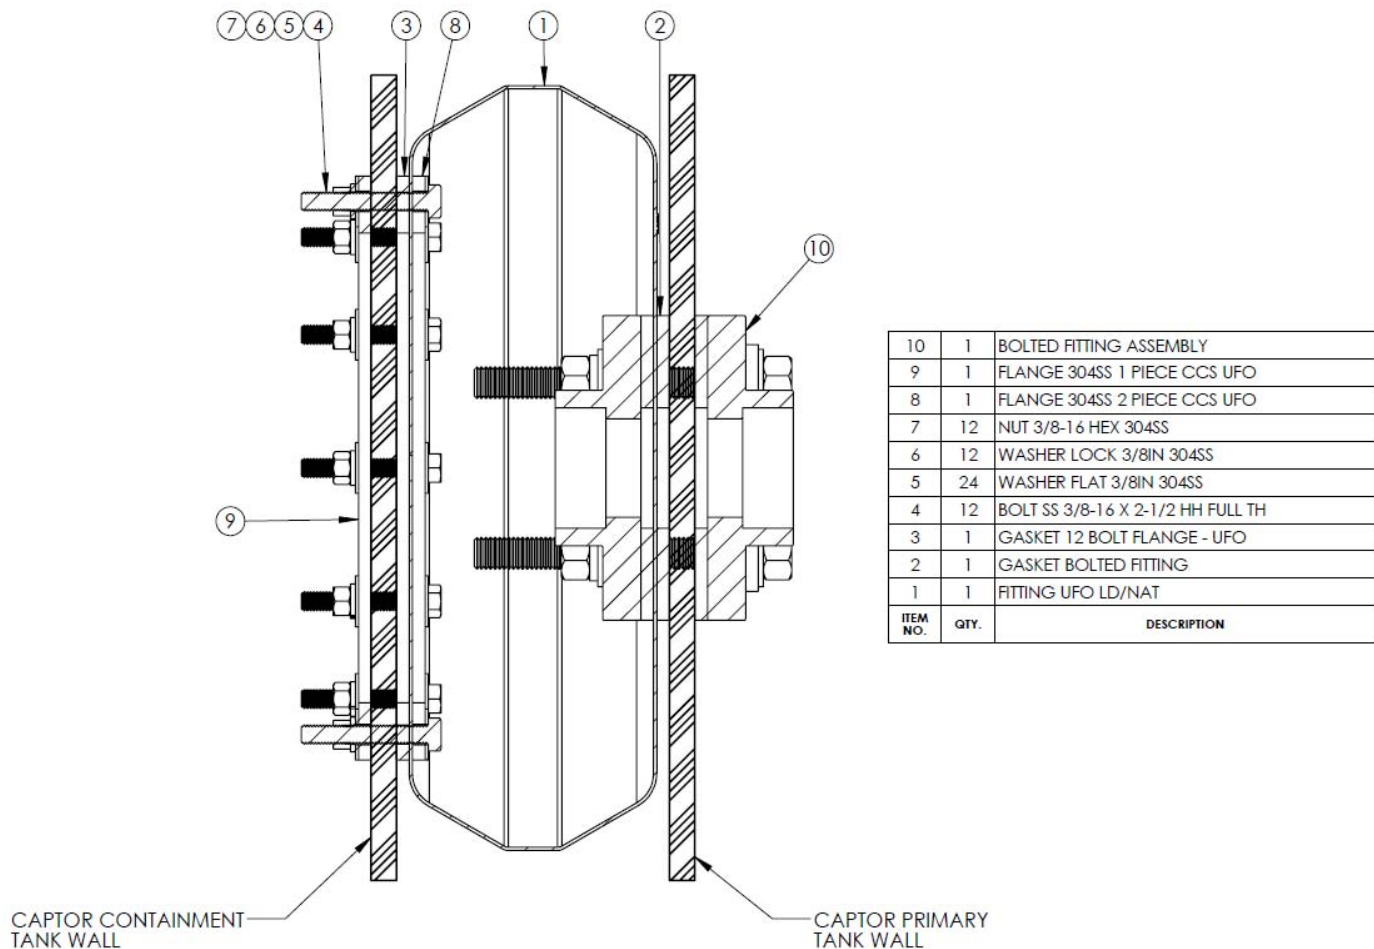

Figure 6.7
6.7.1 The Unified Fitting Outlet (UFO™) is a flexible outlet device that allows primary tanks to be equipped with sidewall fittings while maintaining a seal between the primary and containment tanks that moves with tank expansion/contraction. The UFO will allow 2 to 4 in. bolted fittings to be utilized while maintaining a flexible containment seal. This option is normally a factory installed option for use with a captor containment tank assembly only. This option can be field installed. Consult factory for more details. The bolted fittings used with this option follow the same sealing/tightening criteria as detailed in sections 6.3 and 6.4. An example of this option (patent pending) is shown in Figure 6.7.